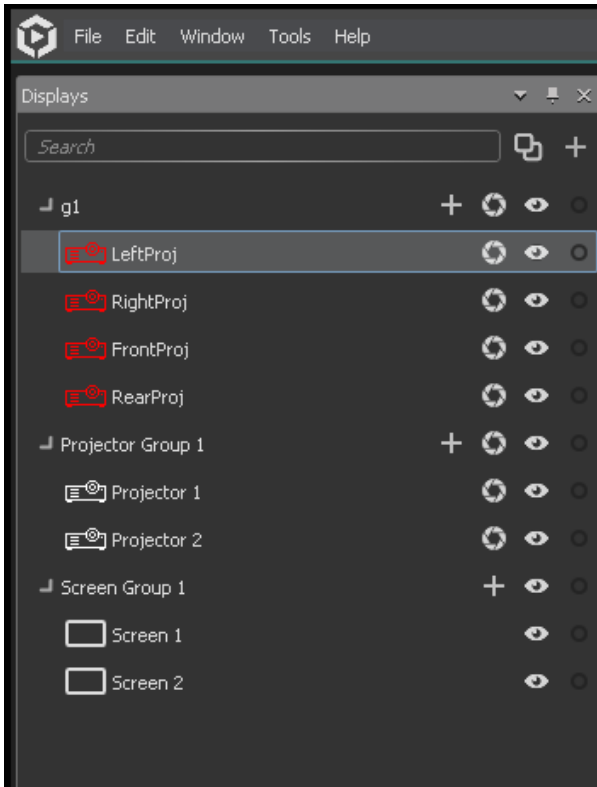

Figure G.2. Displays groups
1. Open the Displays pane and select the projector or screens the position or parameters of which you wish to modify. (See Figure G.2, “Displays groups”.)